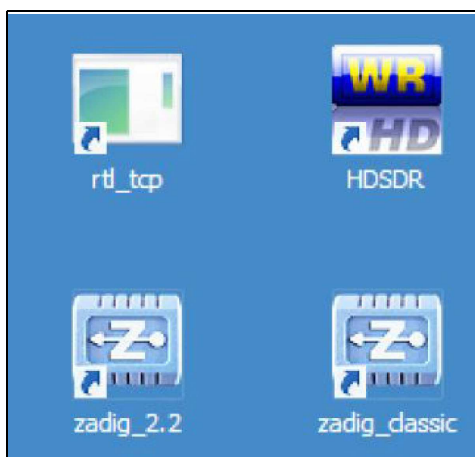

Fig 18: You should have this Icon quartet on your WINDOWS screen after the software installation
- 3 For "RTL-TCP" as well as "zadig\_2.2" and "zadig.exe" you still need shortcuts on the WINDOWS screen; the result should match with **Fig 18**.